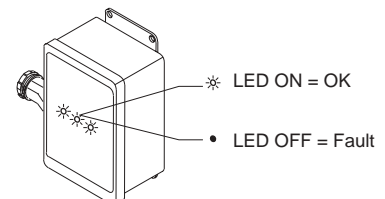

Figure 4: Diagnostic Operation
- LED ON = Normal operation (see Figure 4)